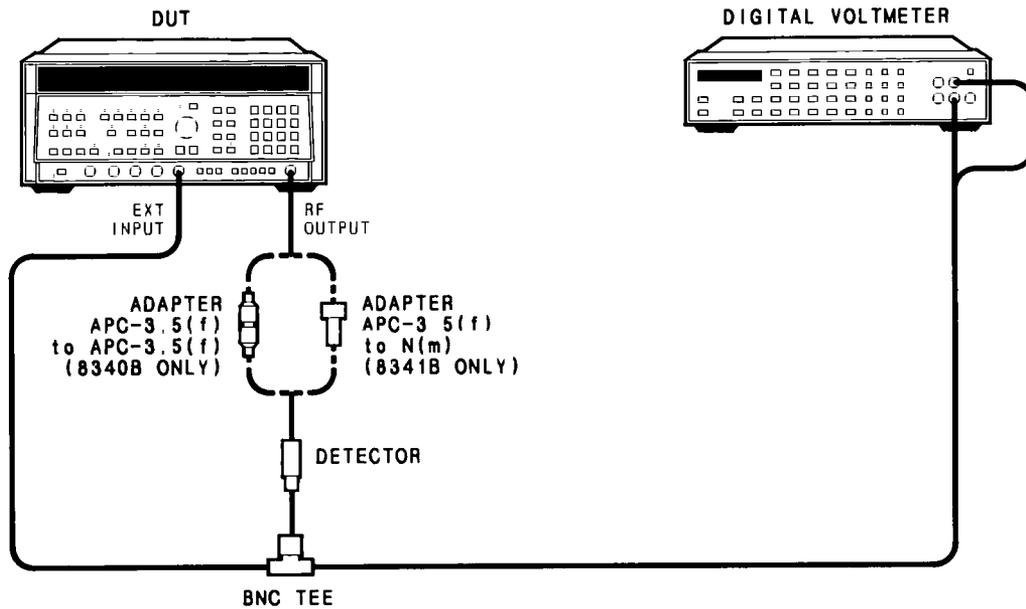

Figure 5-70. External Module Leveling Adjustment Setup
1. Connect the equipment as shown in Figure 5-70. Turn the DUT's LINE switch ON and allow 30 minutes for the equipment to warm up.